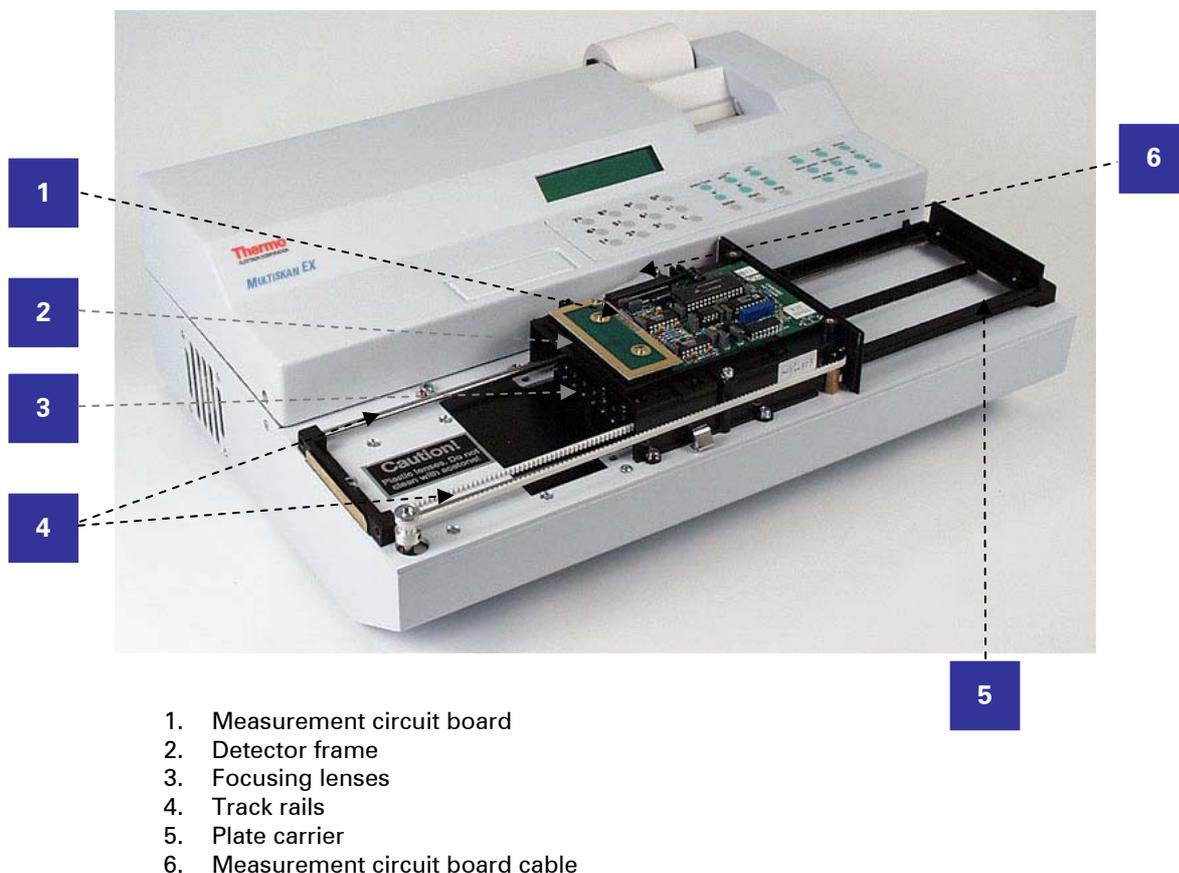

Fig. 7.1 Opening the measurement assembly cover
3. Clean the instrument outside, the track (Fig. 7.1, item 4) and the plate carrier (Fig. 7.1, item 5) with a cloth dampened with water or mild detergent.
2. Clean the track (Fig. 7.1, item 4 inside the measurement assembly as mentioned above.
Caution: DO NOT touch the measurement circuit board (Fig. 7.1, item 1) by hand.
3. Clean the eight (8) focusing lenses at the end of the optical fiber bundle (Fig. 7.1, item 3) with a cloth dampened with water, mild detergent or 96% ethanol. If 96% ethanol is used, wipe afterwards with a napless cloth dampened with water.
4. The upper lenses are situated under the detector frame (Fig. 7.1, item 2). Remove the two detector frame fasteners with washers (Fig. 7.2, item 1). Lift the detector frame from the handle (Fig. 7.3, item 1). Clean the upper lenses (Fig. 7.3, item 2) in the same way as the focusing lenses.
Caution: DO NOT bend the measurement circuit board cable (Fig. 7.1, item 6).